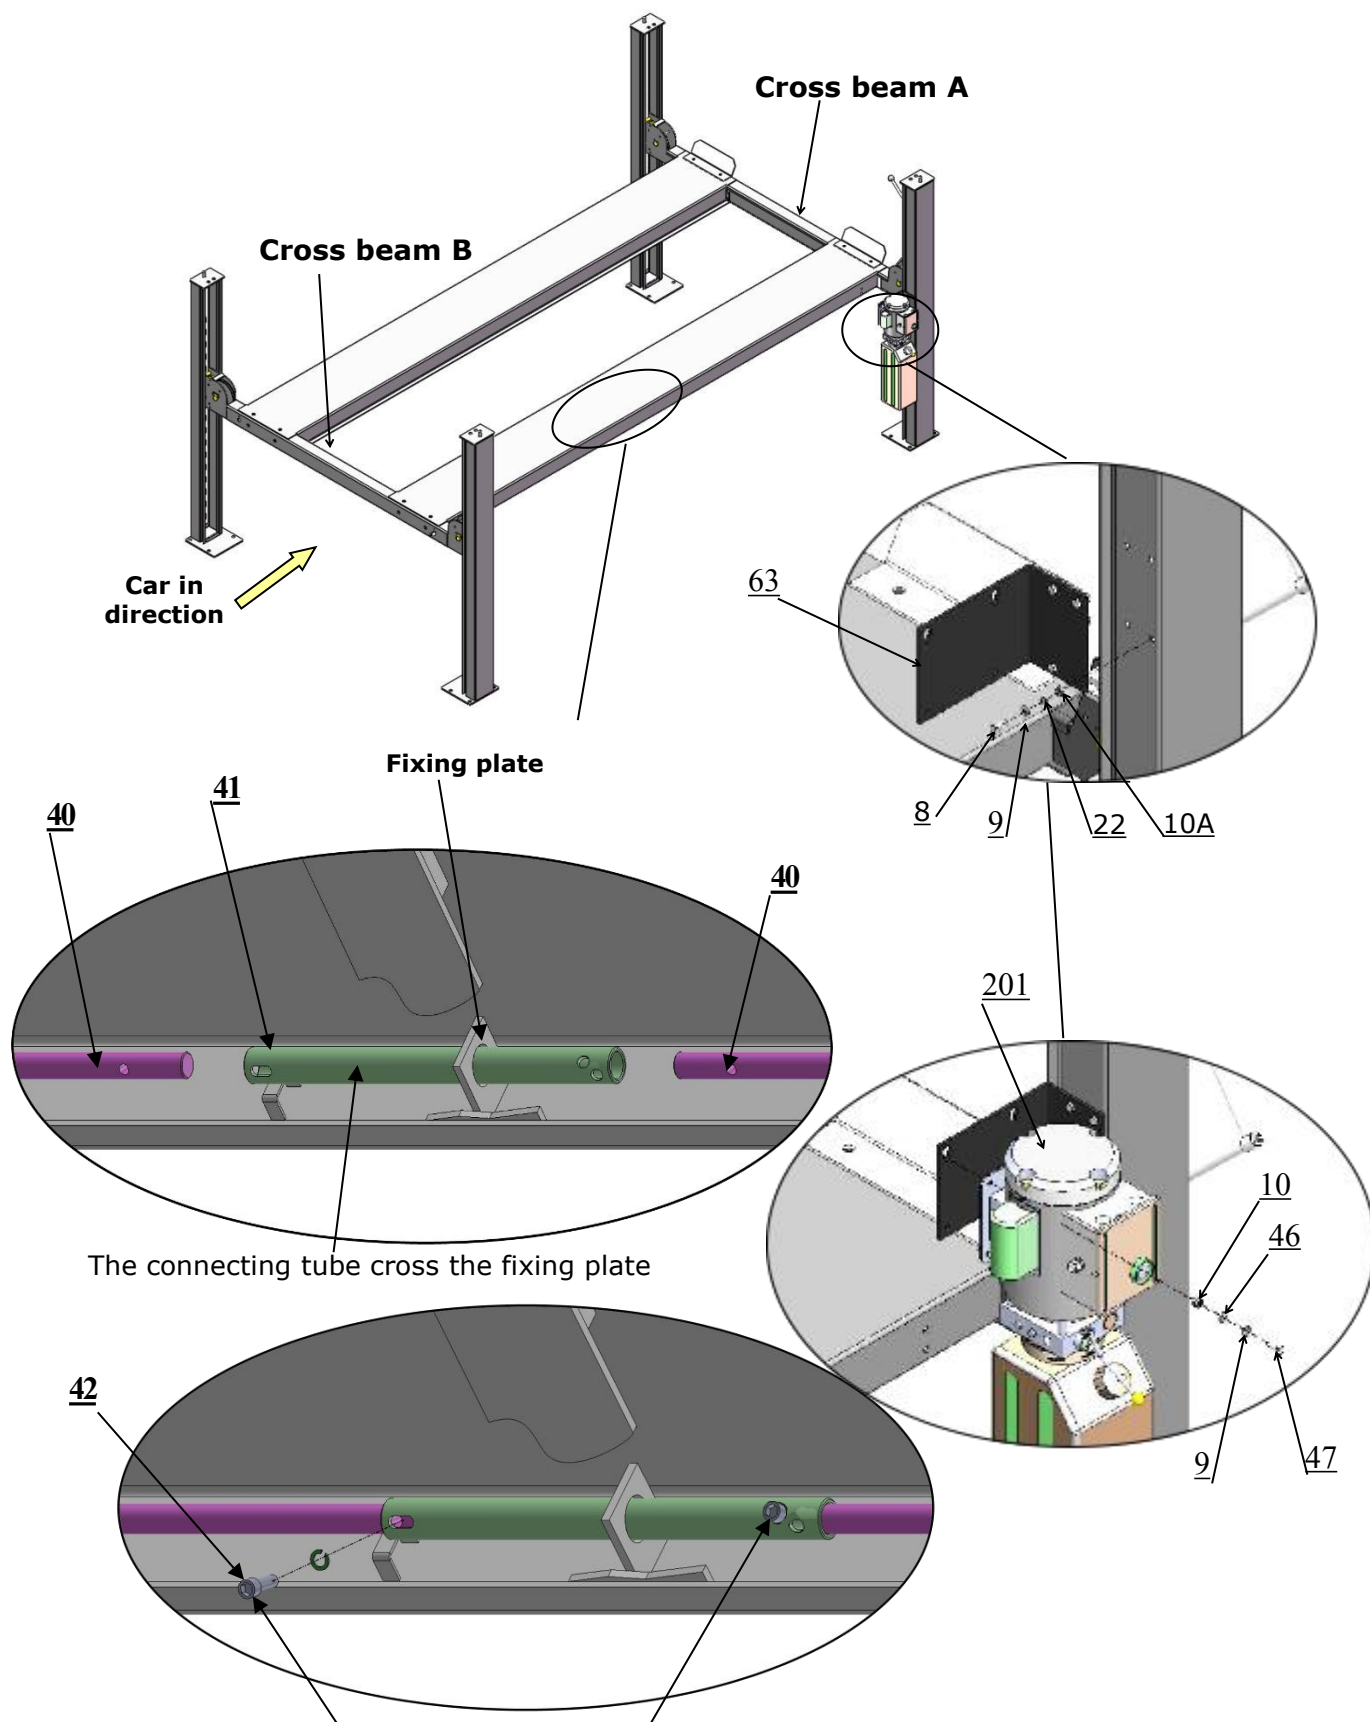

Fig. 24
1. Install Power unit on the cross beam **A**, the installation of Connecting tube is as Fig.24